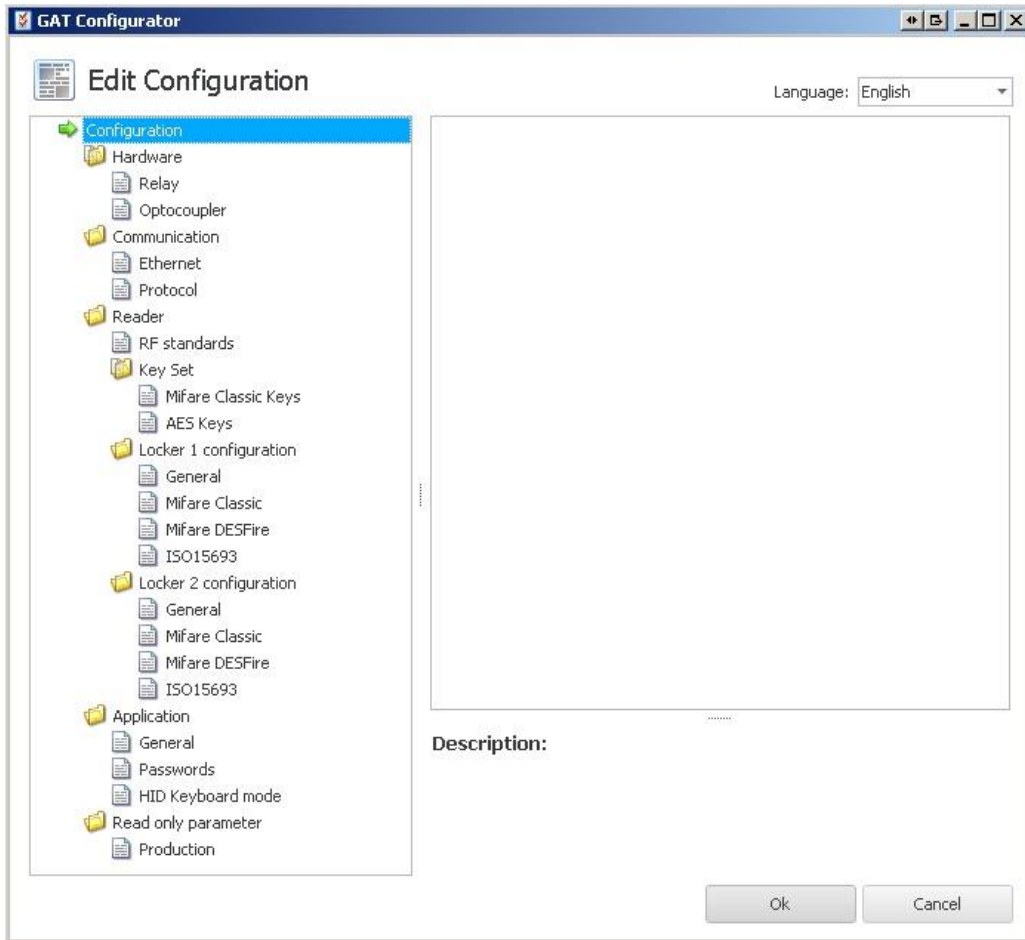

Figure 4.5 – GAT Configurator window
- The GAT Configurator window opens (Figure 4.5).
- Click on “OK” in the GAT Configurator Window (Figure 4.5).